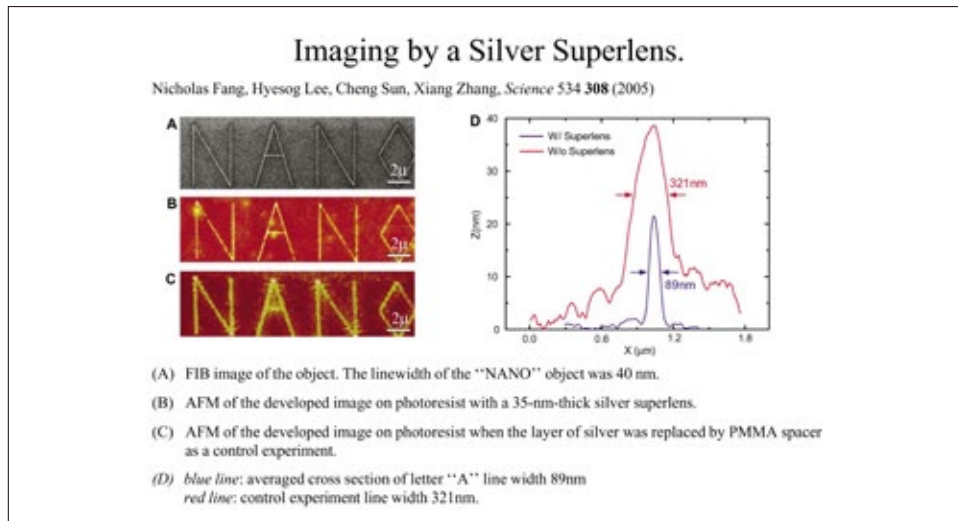

Fig. 18
More impressive is this figure here, where you're looking at the word nano in the chromium, and there's a 2-micron scale (Fig. 18, left). This is what you see if you don't have any lens (C), and if you put the silver lens in place (B), it's like putting your spectacles on. It all comes into focus. This is a scan across which shows that you have in fact improved the resolution from what would have been about 320 nanometers, which you see here, to 90 nanometers (Fig. 18, right). Okay, not perfect, but a lot better.